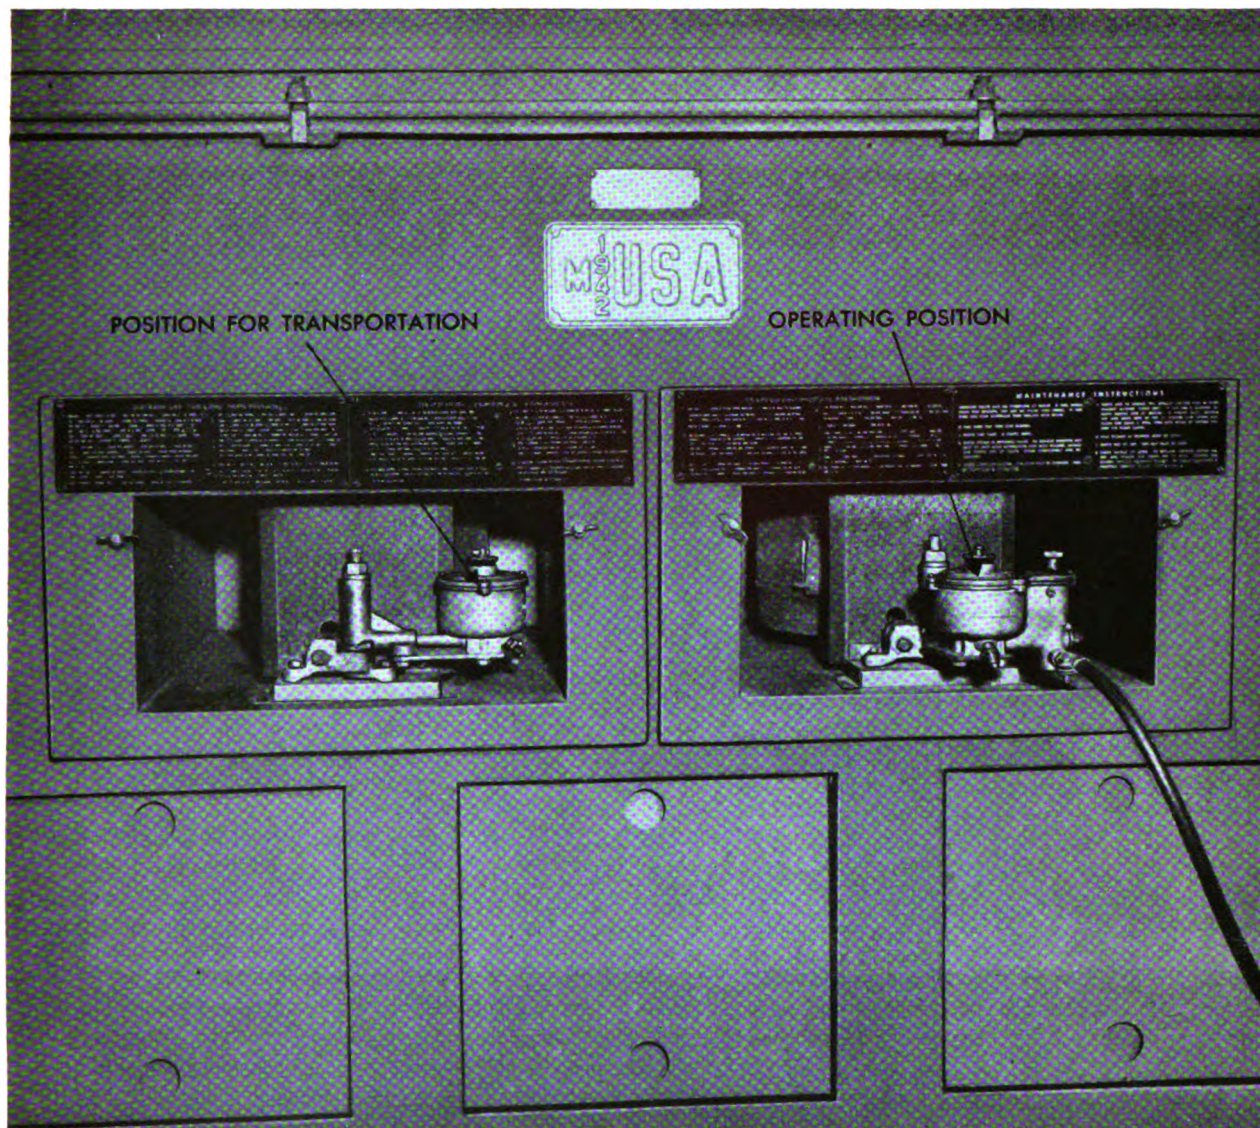

Figure 67. Burners, pot type (65-A-4910) (front view, showing action of valve swivel).
swivel stud which is provided with a cotter (split) pin. (See fig. 67.) Be sure to retighten the nut whenever the position of the valve is changed.
e. **PACKING OUTFIT FOR TRANSPORTATION.** (1) Disconnect the hose at the valve, using two wrenches, so that the union separates, one part of the fitting remaining in the valve. Loosen the nut on the pivot stud and swing the valve into the burner (see fig. 67); then retighten the pivot stud nut so that the valve cannot swing out accidentally.
(2) Unscrew the hose from the fuel can adapter. Coil the hose, screw the ends together, and place it in the spare parts box.
(3) Release the cam lock and unscrew the fuel can adapter. Place the cap on the fuel can. Separate the vent tube and place the adapter and tube, with the wrenches, in the tray of the spare parts box.